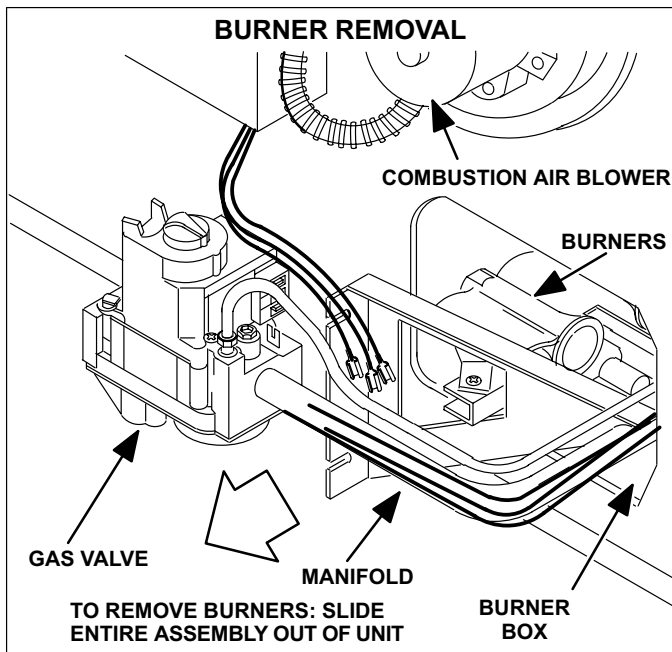

FIGURE 18
- 4 - Slide burner assembly out of unit (figure 18).